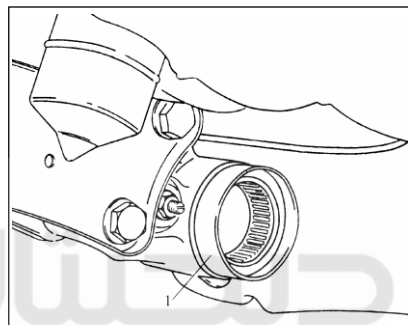

Figure 4-28 Remove Retaining Ring
(13) When misplacement or damage occurs to the retaining ring 1 (as shown in Figure 4-28), remove it.